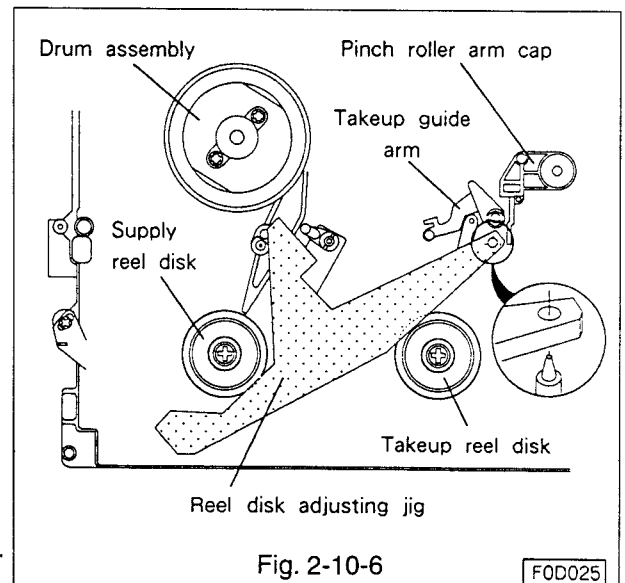
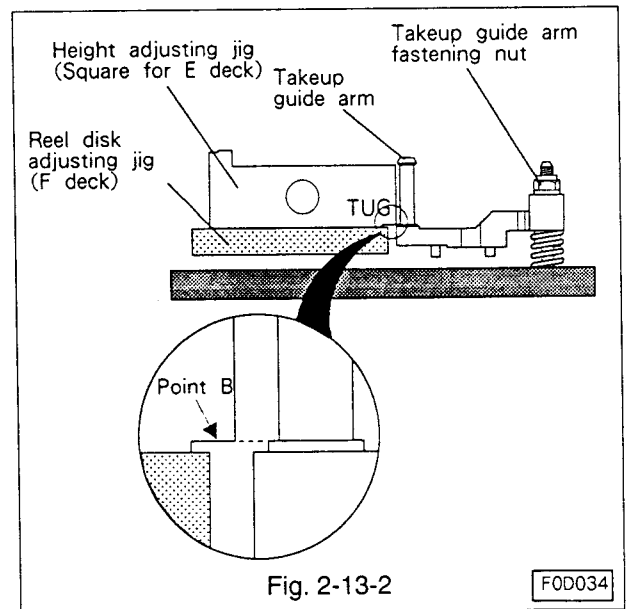

Fig. 2-10-6
Fig. 2-13-2
- J. Place the reel disk adjusting jig(Part Number 859C342O20) in the reference position on the main plate.(Refer to Fig. 2-10-6.)
- Place the reel disk adjusting jig (Part Number 859C342O20) in the reference position on the main plate. (Refer to Fig. 2-10-6.)
- Place the reel disk adjusting jig(for the F deck) in the reference position on the main plate(Refer to Fig. 2-10-6). Tighten the takeup guide arm fastening nut so that the lower flange of the takeup guide arm is level with point B of the height adjusting jig(for the E deck). (Refer to Fig. 2-13-2.)